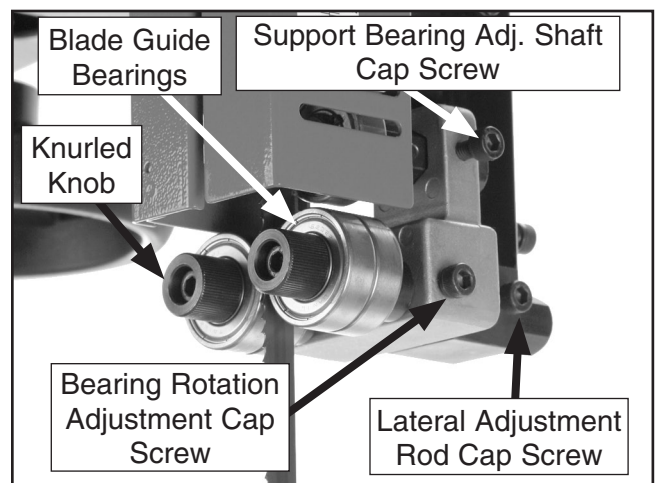

Figure 9. Blade guide controls.
3. Familiarize yourself with the blade guide controls shown in **Figure 9**.